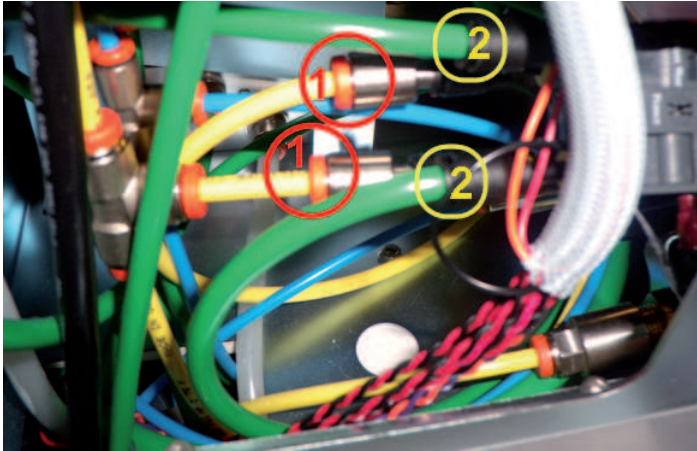

Figure 105 - 5 mm Tubing (1) and 6 mm Tubing (2)
8. Tighten the (2) screws, indicated in Figure 105, to secure the switch assembly.